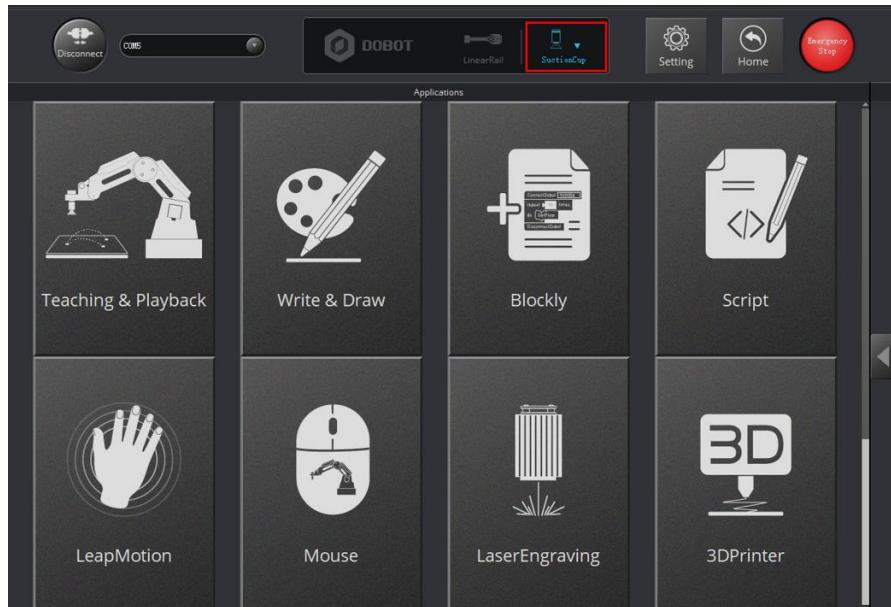

Figure 5.25 Choose SuctionCup as the end-effector
**Step 1** Choose **SuctionCup** as the end-effector on the **DobotStudio** page, as shown in Figure 5.25.